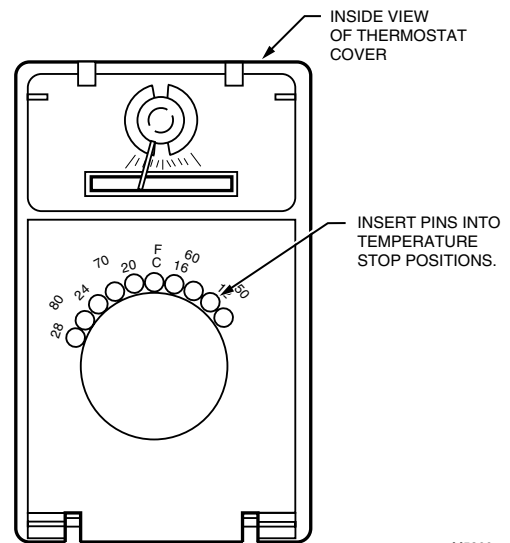

Fig. 6. Setting range stops.
- 4 Insert the range stop pins in the desired positions on the back of the thermostat cover. See Fig. 6.